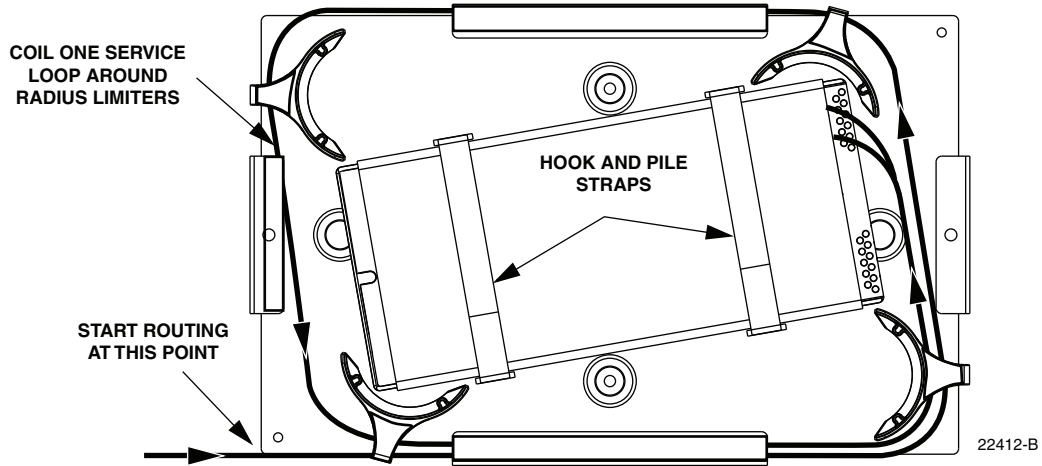

Figure 41. Feeder Splice Tray Replacement
12. To replace the splice tray, route the attached tubes around the splice tray holder radius limiters (there should be two service loops) as shown in Figure 41. Avoid twisting or kinking the fiber tubes. Maintain a 1.5-inch (3.81 cm) minimum bend radius for all non reduced bend radius fiber.